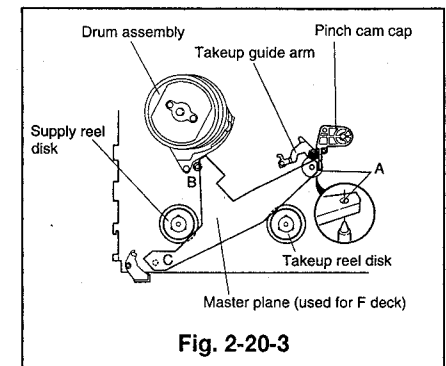

Fig. 2-20-3
- ③ Install the height adjusting jig [master plane](used for F deck: Part No.859C342020) in the specified position. (Insert the jig into hole A, shown in Fig. 2-20-3, so that the jig sets on part B and the end of part C. Take care that the jig does not touch the supply and takeup reel disks.)